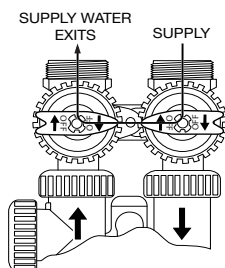

Figure 4: Bypass Operation
- **Bypass Operation Position:** The inlet and outlet handles point to the center of the bypass. The control valve is isolated from the water pressure in the plumbing system. Untreated water is supplied to the plumbing system (Refer to Figure 4).
Water will flow out of the inlet side of the bypass valve during this process. Be sure you perform these steps in a location suitable for water flow. With the garden hose still attached to the outlet side of the bypass valve, slowly flush with water for about 30 minutes until the water flowing out the inlet side of the bypass runs clear. After flushing is completed disconnect the garden hose and make sure the bypass is in the bypass position (Refer to Figure 4).